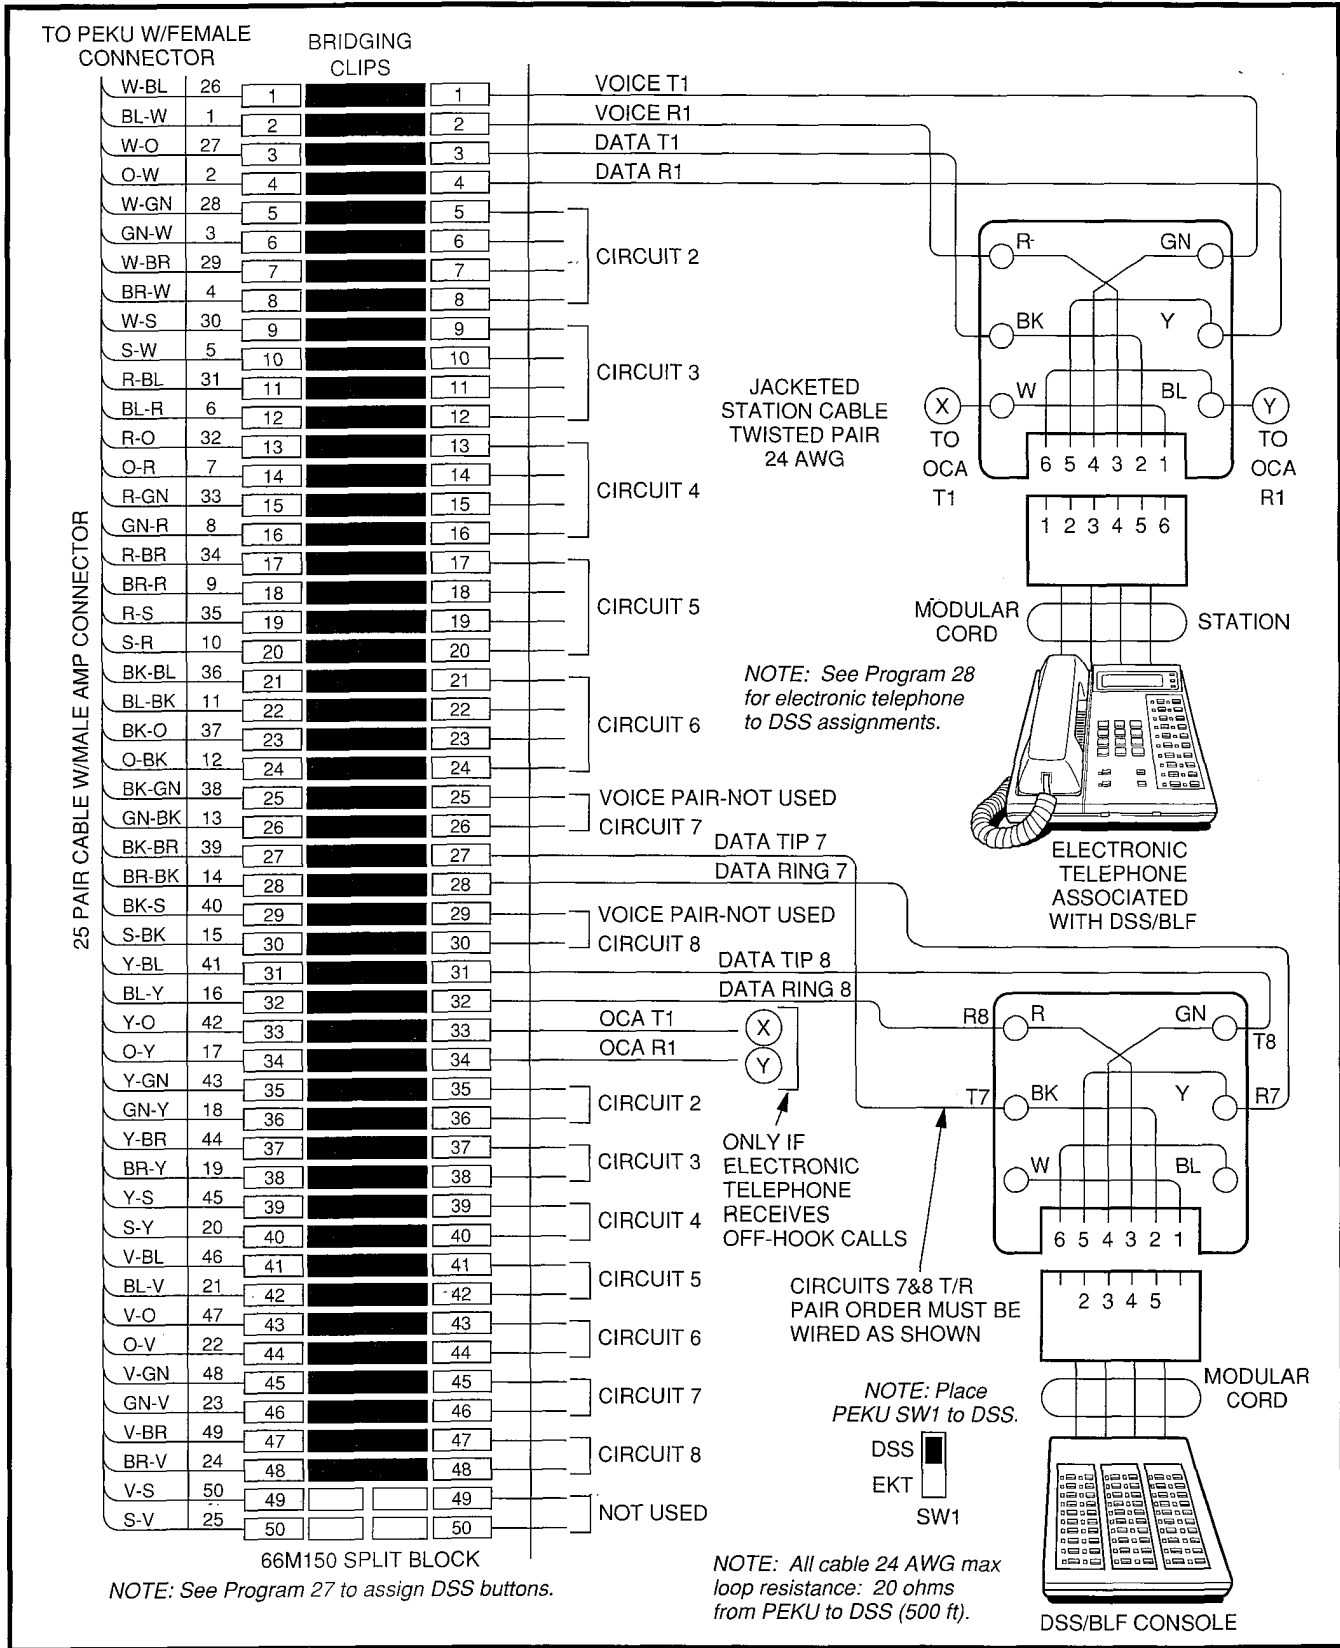

FIGURE 9-2
- Figure 9-2—MDF Wiring/DSS/BLF Console and Associated Electronic Telephone Wiring to PEKU